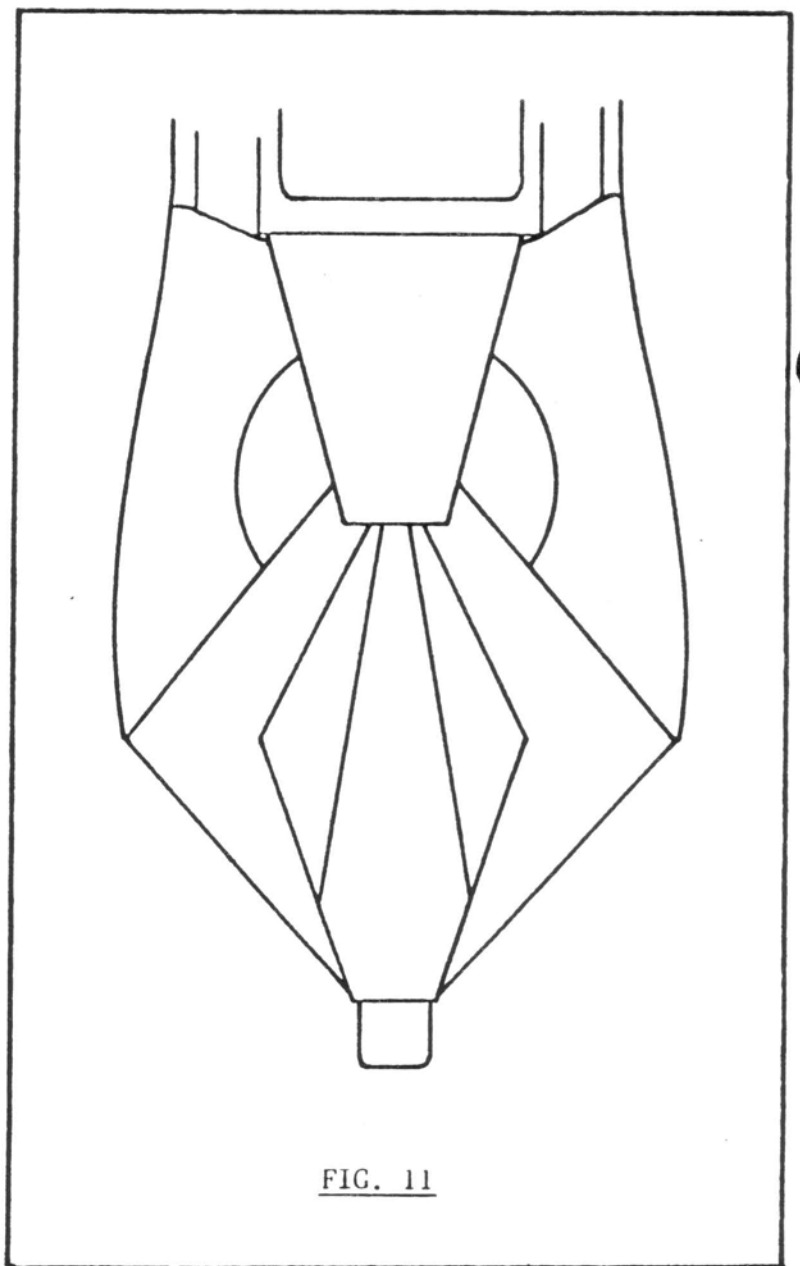

FIG. 11
- 11) The pilot chute fabric extending upward from under the top plate can now be pushed into a narrow, loose roll and placed between the ears of the reserve deployment bag. Be careful not to tuck any of this fabric back under the side flaps; this would tend to retard the launch of the pilot chute. Close the top flap and secure it with the ripcord pin. (Be sure that your temporary pin is accounted for at this time!) (See FIG. 11.) Insert the ripcord handle into its velcro pocket just below the chest strap on the inboard edge of the left main lift web.